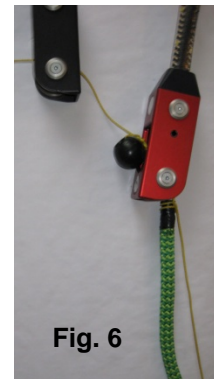

Fig. 6
3. Raise the Climbing Line up and through the black block by pulling on the opposite side of the climbing line. The Retrieval Ball will then make contact with the Retrieval Ball Stop Pin of the red block and separate the two blocks (Fig. 6).